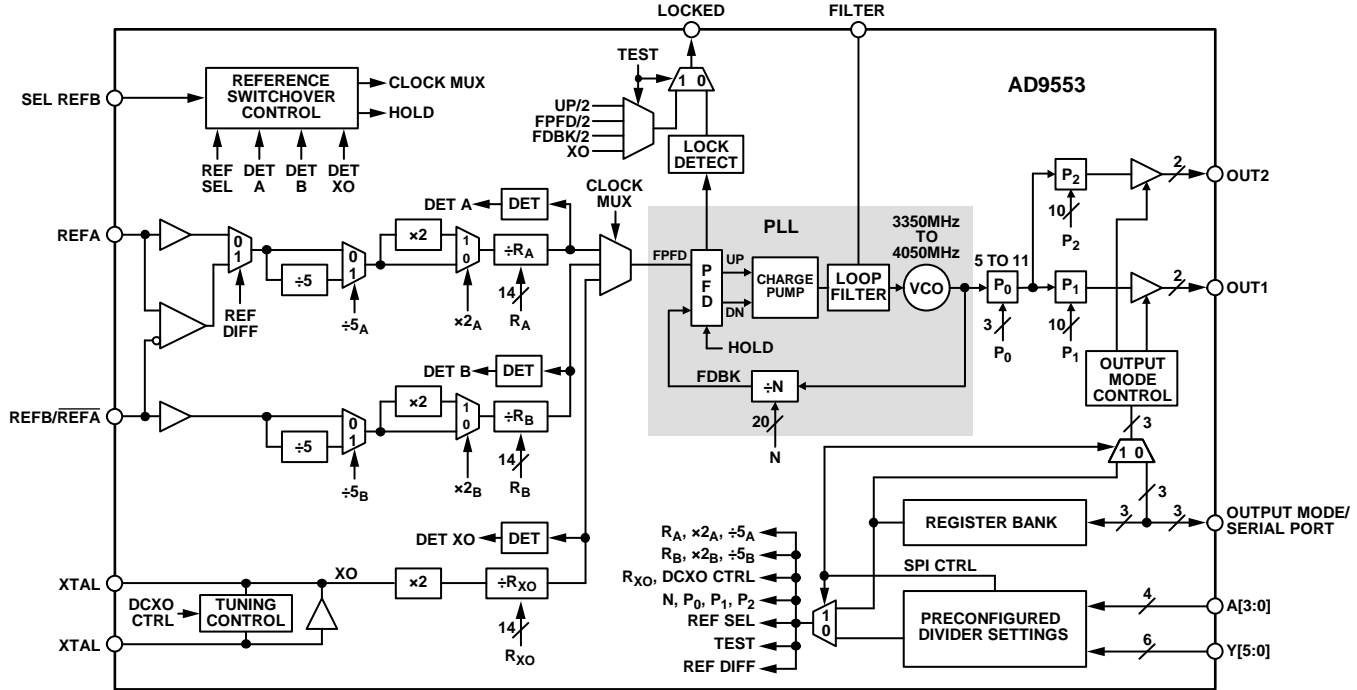

Figure 27. Detailed Block Diagram
Generally, the clock signals that appear at the input to the clock multiplexer (see Figure 27) all operate at the same frequency. Thus, the frequency at the input to the PLL (FFPD in Figure 27) is the same regardless of the signal selected by the clock multiplexer. The PLL converts FFPD to a frequency within the operating range of the VCO (3.35 GHz to 4.05 GHz) based on the value of the feedback divider (N). The VCO prescaler ( $P_0$ ) reduces the VCO output frequency by an integer factor of 5 to 11, resulting in an intermediate frequency in the range of 305 MHz to 810 MHz.
The frequency selection pins (A3 to A0 and Y5 to Y0) allow the user to hardwire the device for preset input and output frequencies based on the pin logic states (see Figure 27). The pins decode ground or open connections as Logic 0 or Logic 1, respectively.